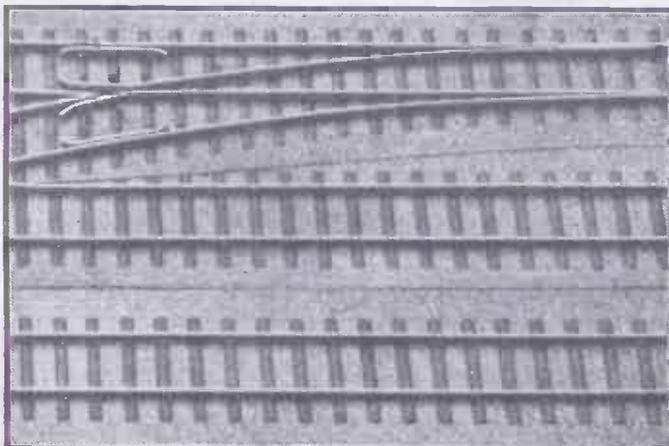

Fig. 7.—Section of "Peco-Way" oo gauge track, showing detail.
**S**INGLE-HOLE fixing is widely adopted for copper cylinders (Fig. 6), some types being made for tinning and soldering to the copper cylinder wall (Fig. 7). Sometimes it is necessary to use a template, and this is often provided by the manufacturers.
Fig. 7.—Various types of circulator. (a) is a standard circulator; (b) has a booster heater comprising an additional element to give a high loading and therefore quicker heating. (c) is for externally fitting to the water heater; and (d) is for horizontal fixing, which can be used in cylinders or rectangular tanks; (e), (f) and (g) show the methods of installation.
OO gauge enthusiasts who demand realism as a feature of their track. Fig. 7 gives a close-up of a section of a railway laid with this track, including a pair of points. Centre or side rail for electric traction may, of course, be added if you require it. The main new feature in this track is the base, which is of special card with the sleepers embossed on it, darkly coloured, and pierced ready to receive the chairs. M.E.T.A. standard nickel silver rail is used. If you are interested in Peco-Way, you can obtain further information about it from Messrs. Bassett-Lowke, Ltd., at their branch at 112, High Holborn, London, W.C.1, or by post from the Head Office and Works at Northampton.